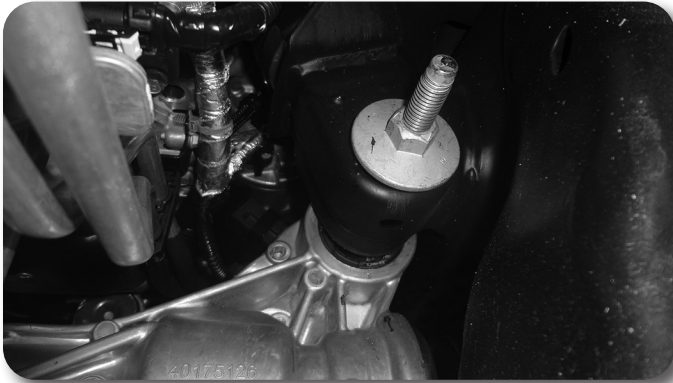
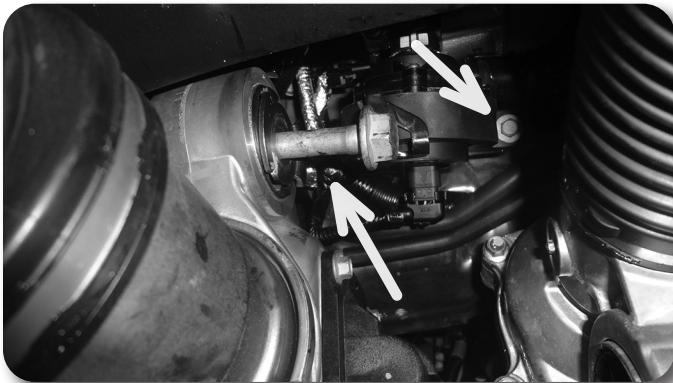

Figure 19A
Figure 19B
26. Remove the nut from the passenger's side differential mounting bolt Fig. 19A. Carefully lower the differential to the ground while removing the long bolt for the passenger's side differential mount Fig. 19B. Discard the bolt, save the nut for later installation. Do not remove the CV shafts if possible. If removed the CV shafts will need the retaining clips replaced.
The bolt holding the actuator may need to be removed in order to aid in removal of the long bolt for the differential. The bolt is on the right side in Figure 19B. Reinstall the bolt for the actuator after it has been removed. It also helps to push the rear of the differential upwards to point the bolt head downwards to aid in removal.